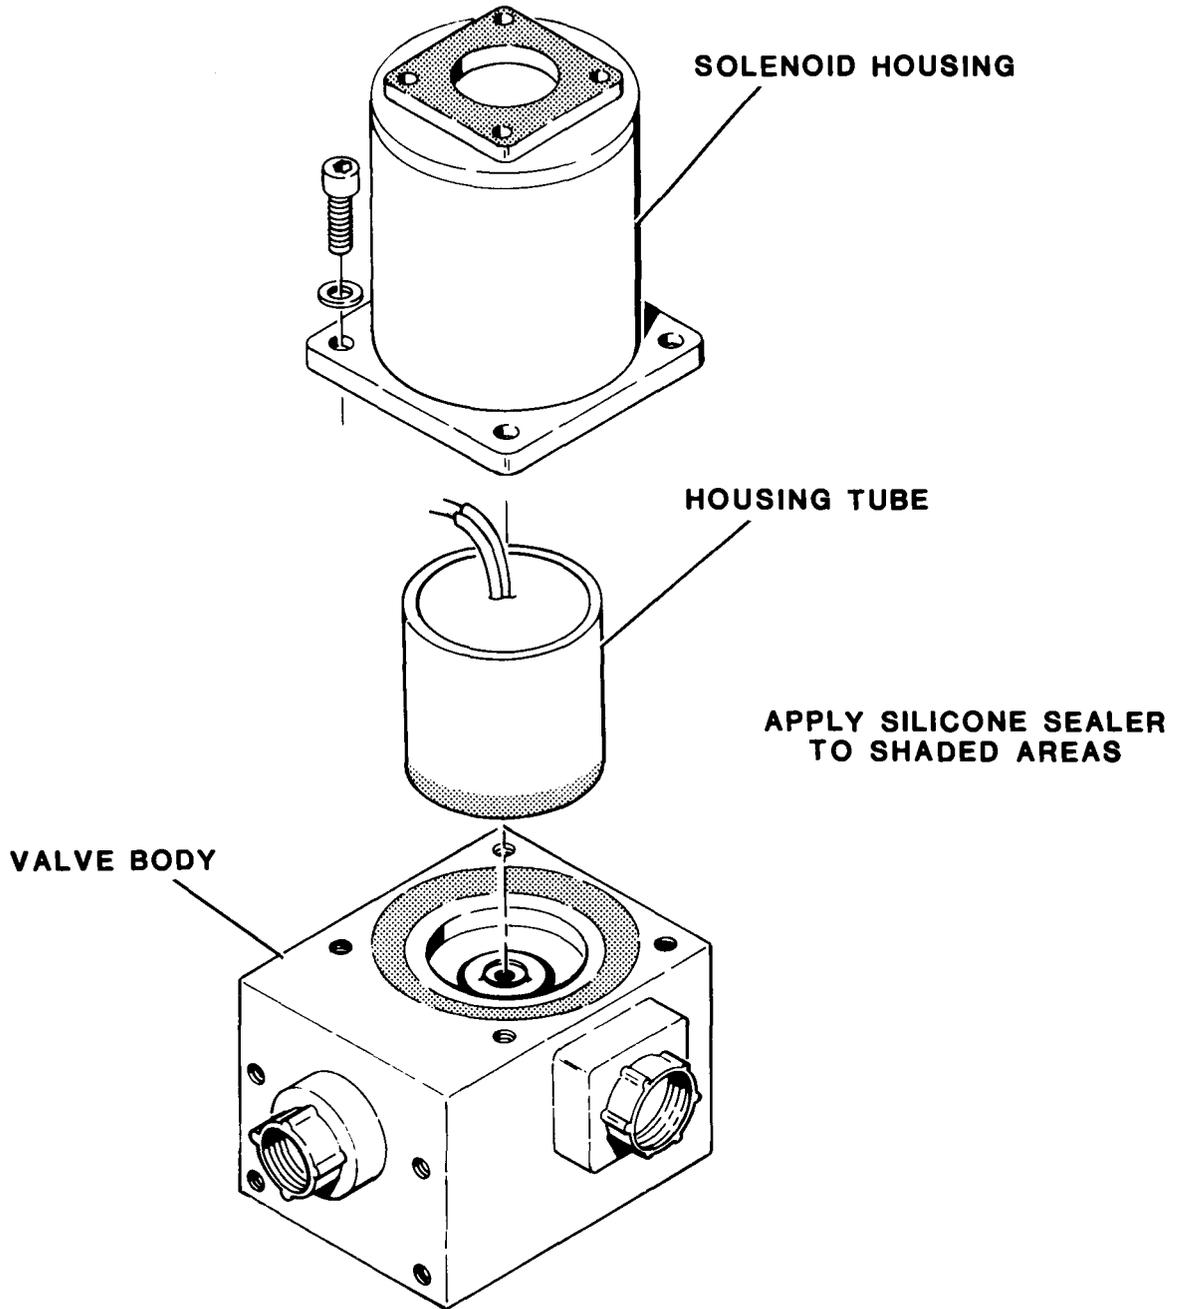

Figure 6-9. Silicone Sealer Application
(5) Insert actuating pin (15) into valve seat until it rests on lower poppet.
(6) Install solenoid coil (14) in housing tube (12).
(7) Lightly lubricate new O-ring (13) and install in housing tube.
(8) Apply silicone sealer (RTV-157) to surfaces of valve body and housing tube as shown in figure 6-9.
(9) In order, place solenoid plunger (11), solenoid armature (10), armature pin (9), and upper poppet (8) in housing tube.
(10) Align mounting holes of solenoid housing and valve body. Secure with washers (6) and capscrews (5).
(11) Install shrink tube and connect wiring to electric receptacle connector (3).
(12) Apply silicone sealer (RTV-157) to top of solenoid housing as shown in figure 6-9.